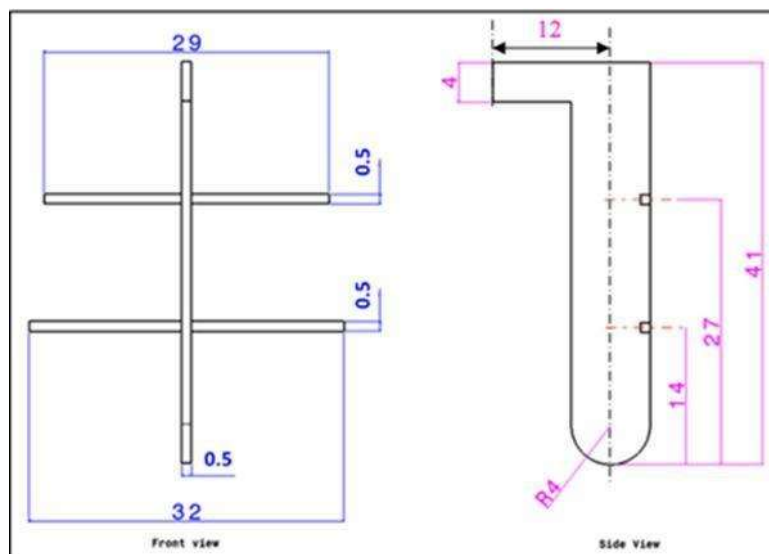

Figure B- 17: Roll Cage Template Drawing (All Dimensions are in inches)
- 1) Lateral USM - The two LFS members shall be joined by the Under Seat Members. The USM shall pass below the driver within the fore-aft envelope of the part of the template as noted in Figure B-17 that intersects the seat bottom.
- 2) Longitudinal USM - The ALC and FLC members shall be joined longitudinally by the Under Seat Member. The forward end of the USM may also terminate at an additional cross member made from a primary material that joins the LFS members between Point A and Point F. The USM must pass within the fore-aft envelope of the template as noted in Figure B-17 intersects the seat bottom and the lateral centerline of the seat.